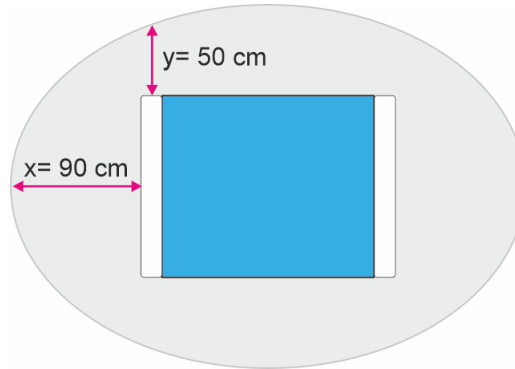

Figure 16: Top view, detection area unwanted detection
- Note that the entire reading area of the antenna gate is larger than the three-dimensional area shown in the drawing (Fig. 16). This means there are tag orientations in which the tag can be detected outside the reading area.